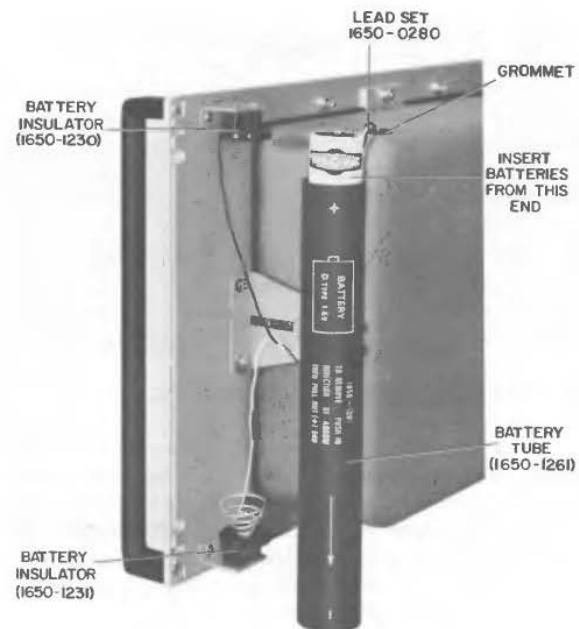

Figure 1-6. Battery mounting for rack-mounted 1650-B Bridge.
v. Snap the battery tube and batteries into place between the insulators on the rack panel (Figure 1-6).